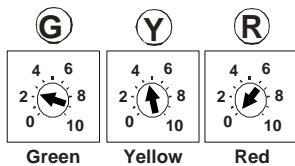
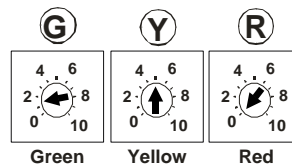

FIGURE 3
FIGURE 4
6. Remove the door from the Fi2000R module to expose the LED's. **NOTE:** The Fi2000R pot settings come preset from the factory for the Meanstreak / Marauder 1600, (Fig.3), for owners, with the Meanstreak 1500 please adjust the Fi2000R to the base pot settings shown in (Fig. 4), prior to proceeding further. Verify the wire connections by turning the ignition on, prior to starting, and see if all three LEDs are on steady for a few seconds, and then go off. This is correct. If there are no lights visible, make sure the side stand is up, bike is in neutral, clutch is in and handlebar engine switch is set to run. If there are still no lights visible, re-check that all connectors are fully engaged and the ground wire is connected correctly.